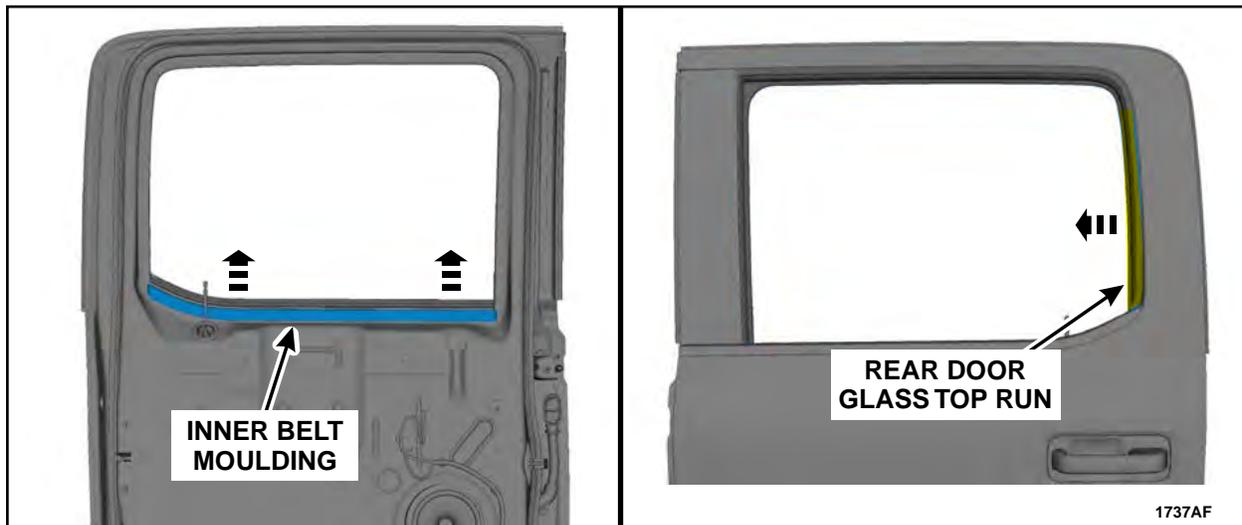

FIGURE 64
6. Remove the rear door inner belt moulding and position aside the latch side of the door glass top run. See Figure 64.
9. Install the rear door glass top run and inner belt moulding. See Figure 64.